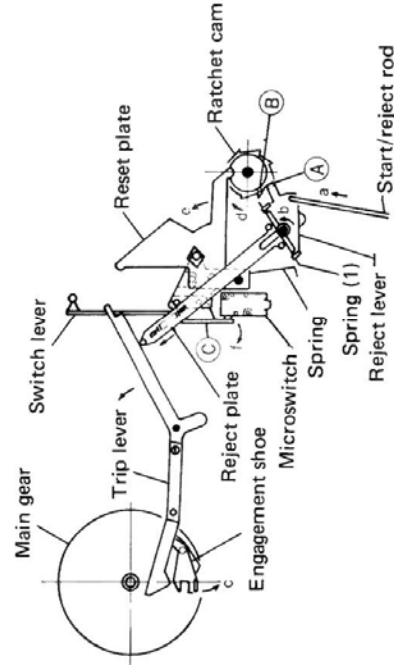

Fig. 3
When the START/REJECT operation lever is pulled toward "START", the mechanism operates as shown in Fig. 3 to power the platter and carry the tonearm to the specified position on the record surface.
As shown in Fig. 3, when the start/reject rod is pushed in the direction of arrow (a) the reject lever connected to the rod turns in the direction of arrow (b). At this revolution, the reject plate is pushed by the spring (1), and the engagement shoe is moved in the direction of arrow (c), beginning the starting cycle operation.